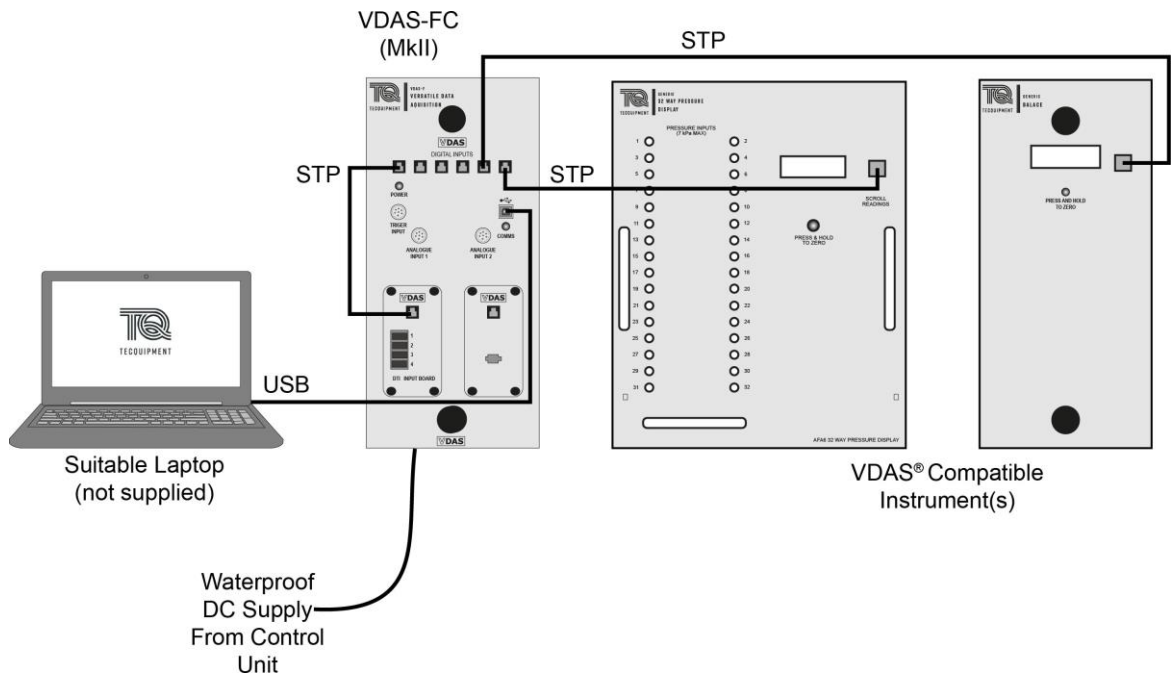

Figure 11 Typical System Connections for the VDAS-FC
1. Figure 11 shows typical connections for the VDAS-FC Hardware.